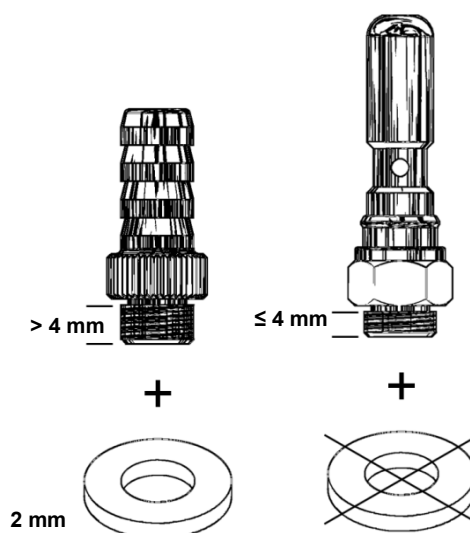

Fig. 6: Thread lengths of the adapter
2. With adapters with a thread length of > 4 mm add as many flat washers until the thread protrudes by max. 4 mm (Fig. 6 **Fehler! Verweisquelle konnte nicht gefunden werden.**)